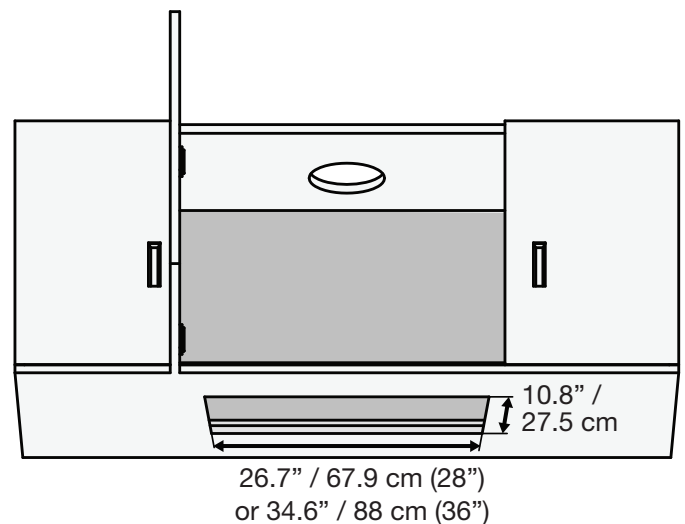

Figure 2
- Cut a hole in the bottom of the cabinet, using the dimensions shown on Figure 2.